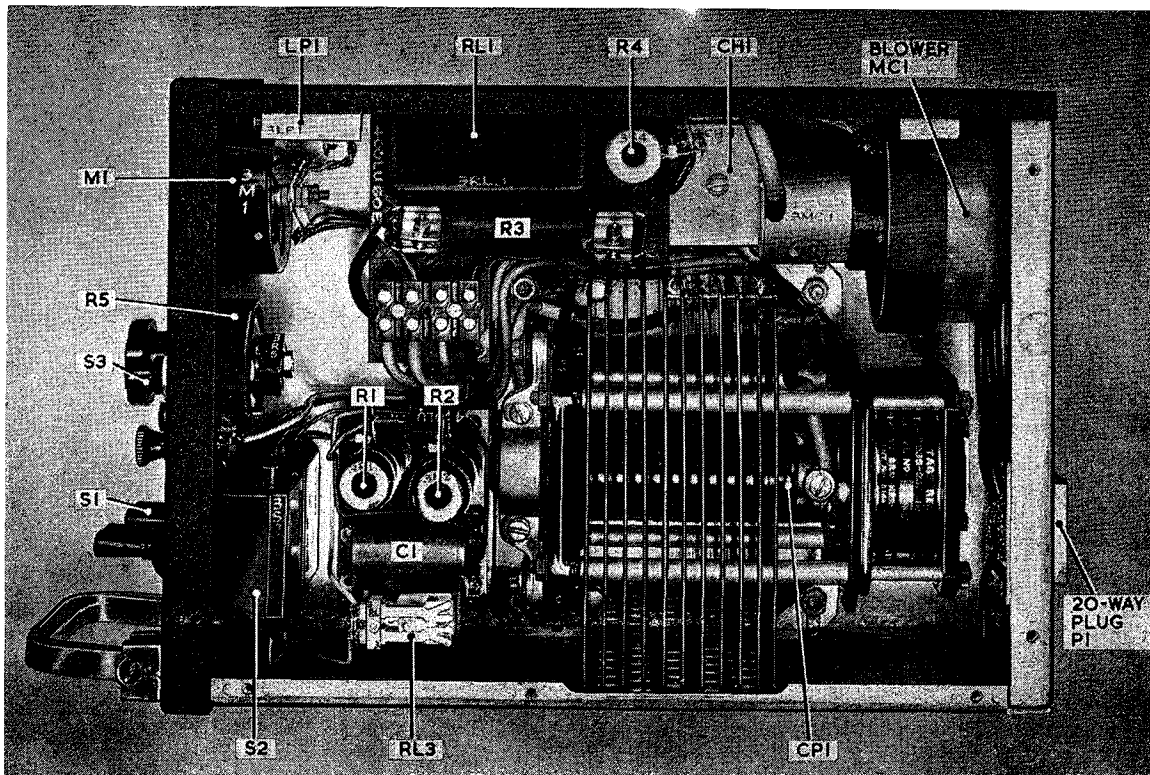

Fig. 2. Interior view
5. The voltage regulator is fundamentally a variable resistance of the carbon pile type controlled by an electro-magnet energized from the output circuit. The carbon pile resistance CP1 (*fig. 2*) is connected in series between the DC supply provided by the aircraft and the load, such as heaters